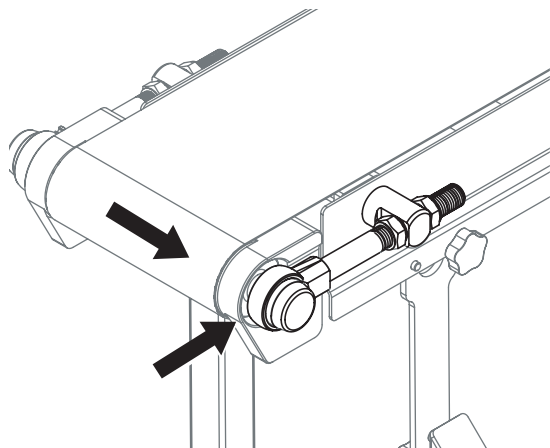

Figure 50
- a. Loosen the nut to shorten the length of the idler tail shaft and bring the belt closer to that side of the conveyor (**Figure 50**).